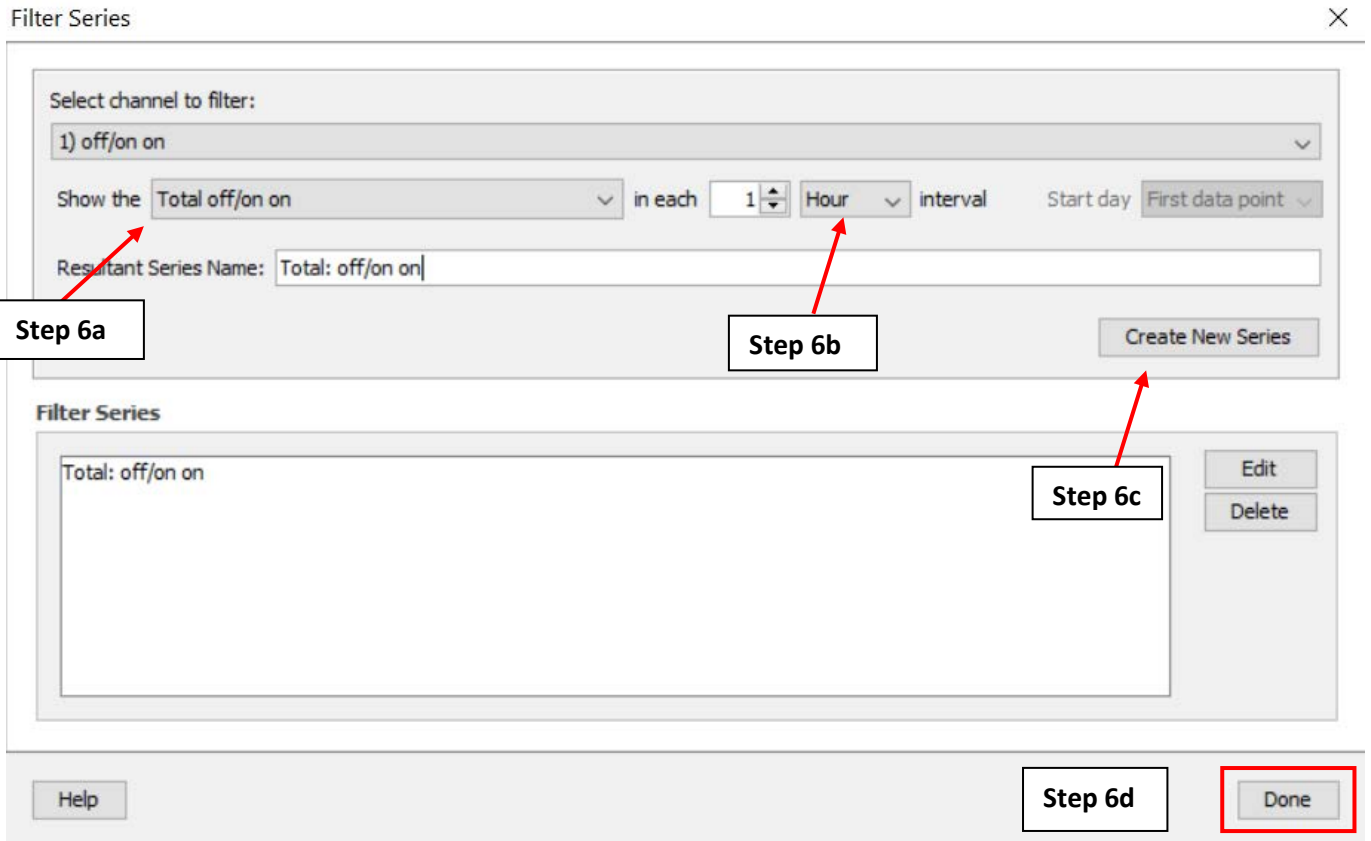

Figure A.5.5: "Filter Series" Configuration Steps
6. To configure the “Filter Series” pop-up window shown on Figure A.5.5: